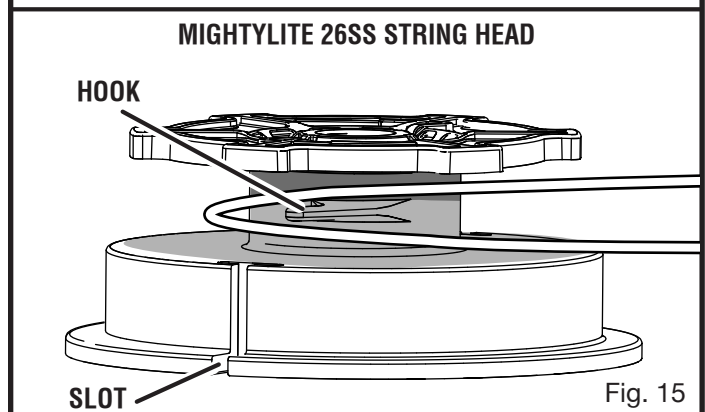

Fig. 15
**For the MightyLite 26SS:** Cut one piece of trimmer line 18 ft. long. Find the middle of the string section. Loop the string around the hook in the center of the spool (figure 15). Carefully wind the string in the direction indicated on the top of the spool. Nearing the end of the string, slide one end of the string into each slot of the spool. Do not overfill.